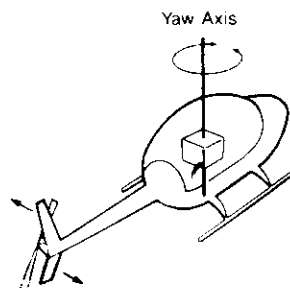

FIGURE 4
- To control the rudder (yaw axis) with a gyroscope, set the gyroscope upright at a right angle to the yaw axis (or to the main rotor shaft, in helicopters) as shown in Figure 4.